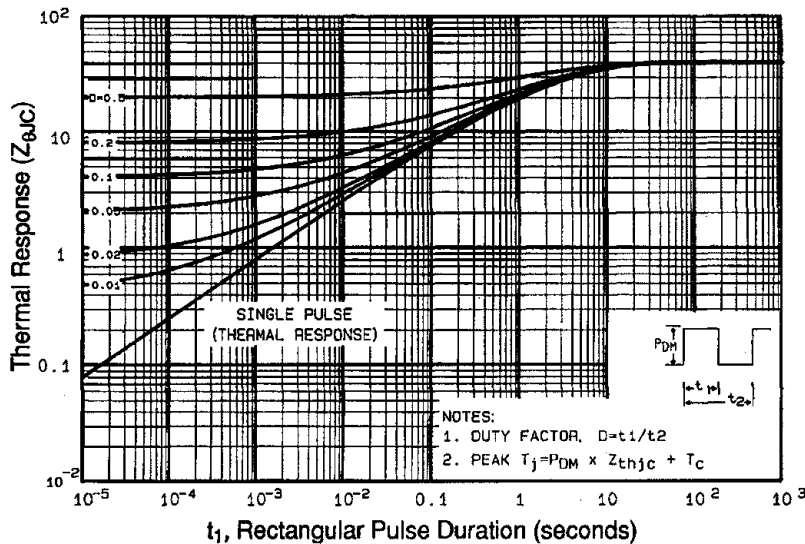

Fig 11. Maximum Effective Transient Thermal Impedance, Junction-to-Case
- ① Repetitive rating; pulse width limited by max. junction temperature. (See fig. 11)
- ② $V_{DD} = 25V$, starting $T_J = 25^\circ\text{C}$, $L = 16\text{ mH}$